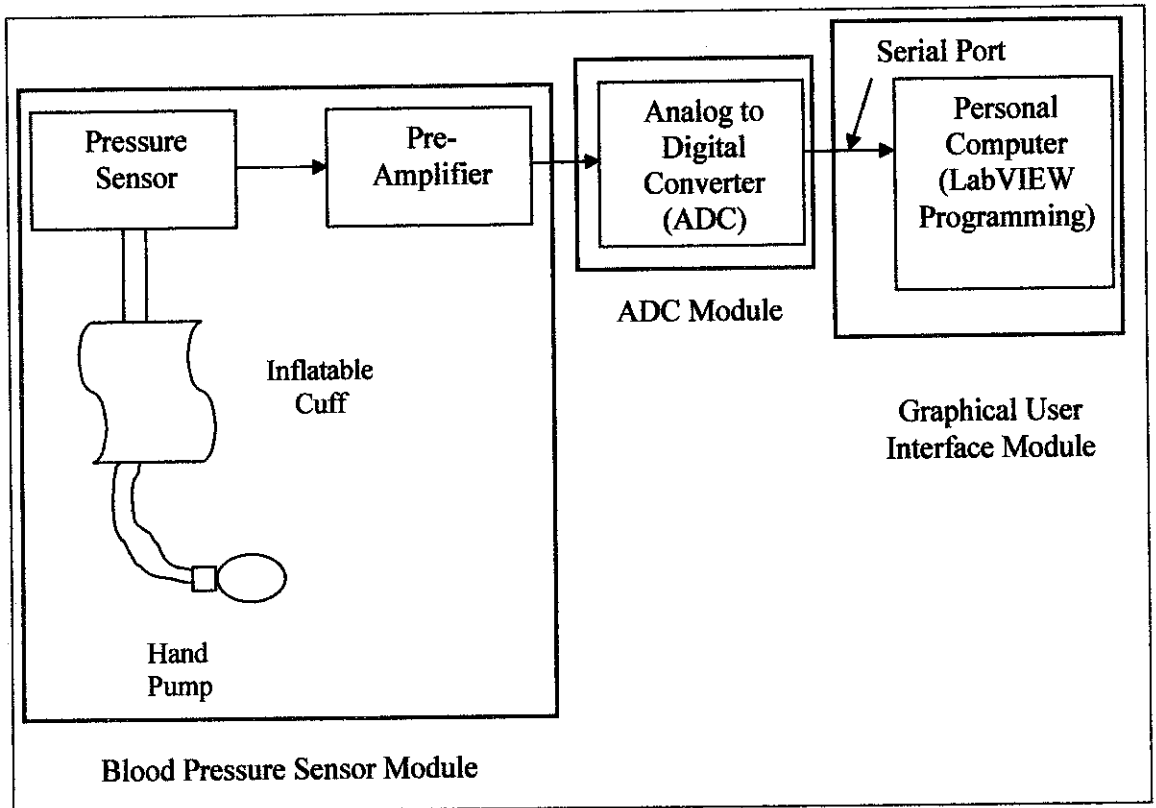

Figure 5: Project Divided into 3 Modules
- Figure 5:** Project Divided into 3 Modules
The system is broken up into several modules in order to simplify the order of the system development work. Figure 5 shows the block diagram of the project divided up into 3 modules.